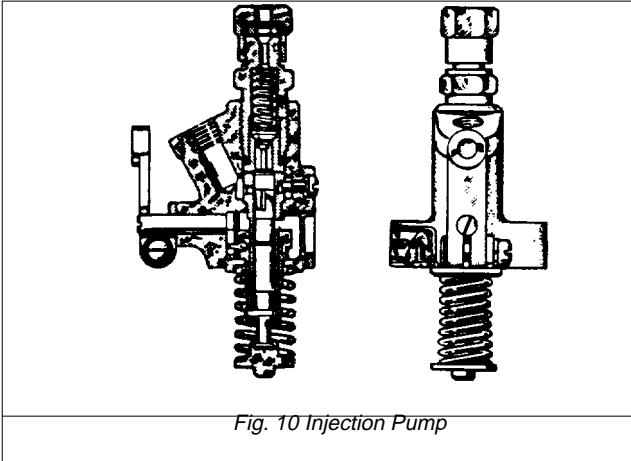

Fig. 10 Injection Pump
- (1) Figure 10 illustrates the injection pump cross section. When the piston is nearing the end of the compression stroke, the plunger has moved upward (lower line, Fig. 10) closing the ports trapping fuel and forcing the delivery valve off its seat. The fuel flow is up past the delivery valve and delivery valve spring to the high pressure line leading to the injection nozzle. Injection continues until the helix passes and spills, which drops the pressure rapidly. Delivery valve action is to aid in dropping line pressure and keep fuel from draining out of the line, allowing a void between the injection pump and nozzle which would cause the nozzle not to open on the next firing cycle.